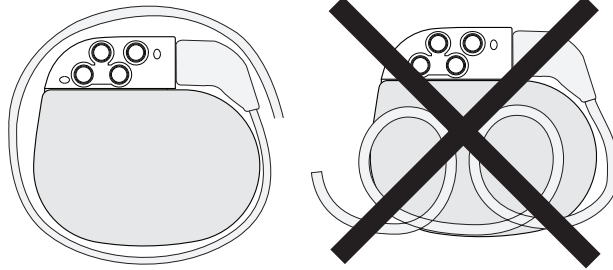

Figure 3. *Wrap excess extension around the perimeter of the neurostimulator.*
- Do not coil excess extension in front of the neurostimulator. Wrap excess extension around the perimeter (Figure 3) of the neurostimulator to minimize subcutaneous pocket depth, help minimize potential damage during neurostimulator replacement surgery, help minimize potential kinking of the extension, and minimize interference with telemetry. Excess extension should not exceed two wraps around the perimeter of the neurostimulator. Extension lengths requiring more than two wraps can interfere with telemetry.